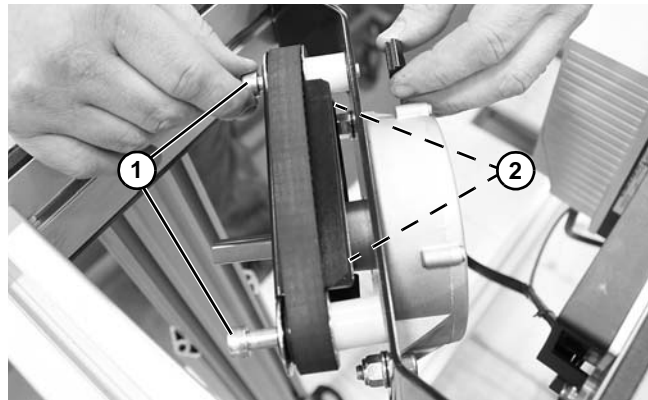

Figure 136
1. Loosen screws (**Figure 136, item 1**).
2. Remove flathead screws (**Figure 136, item 2**) holding wearstrip.